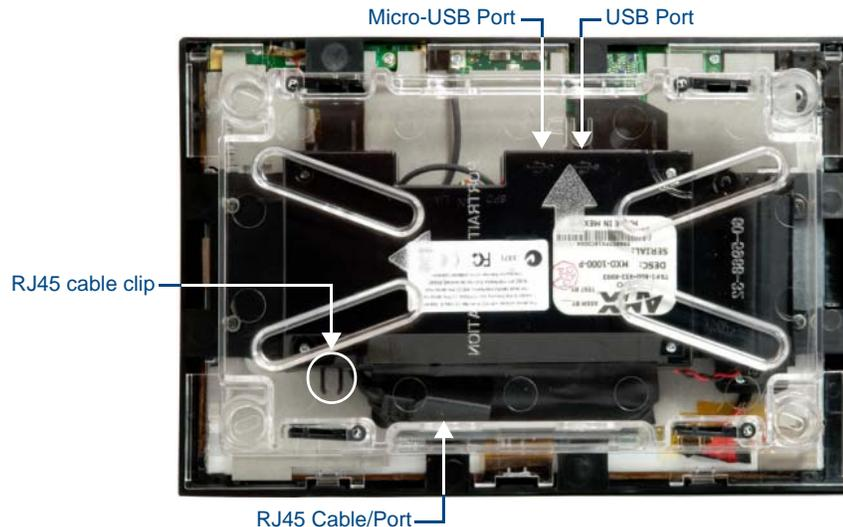

FIG. 21 MXD-1000 - rear view
- To reach the RJ45 connector, gently pull it from beneath the electronics cover (FIG. 21).